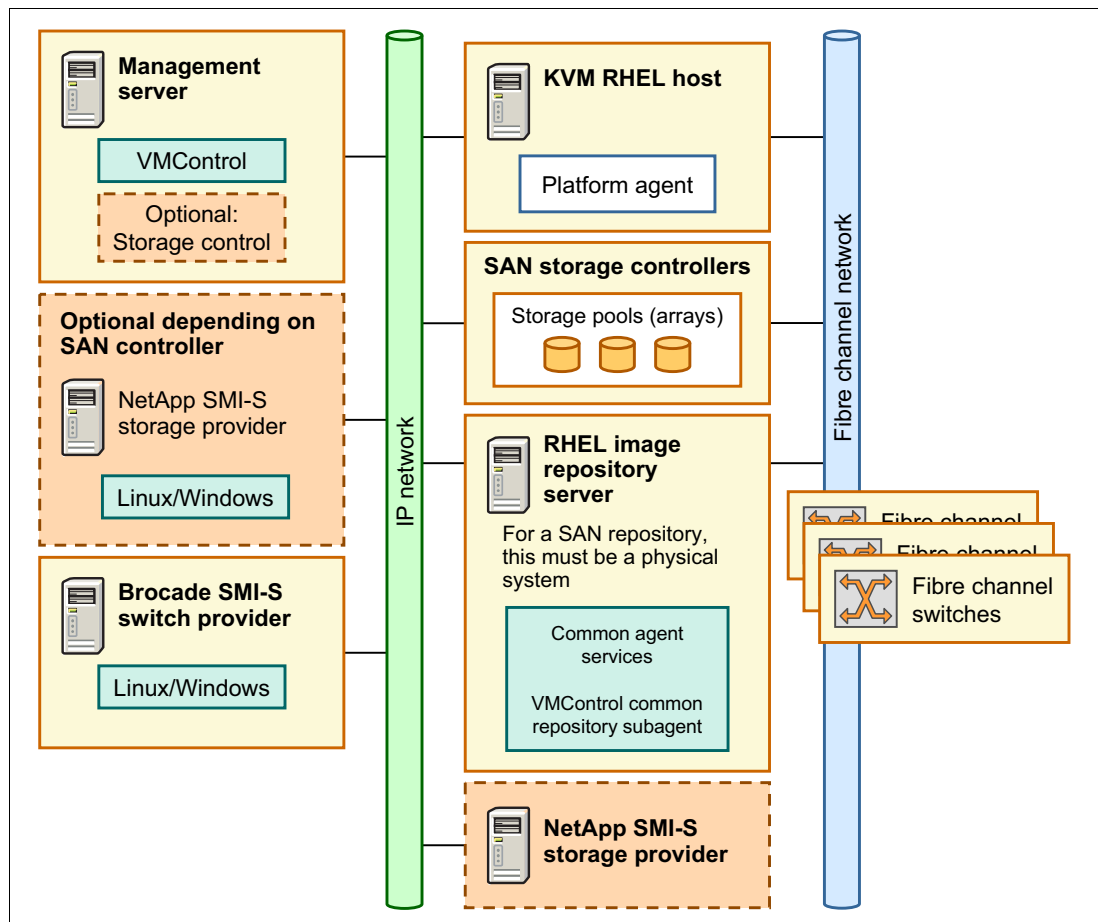

Figure 5-11 KVM virtualization environment with SAN storage
The picture in Figure 5-11 shows a KVM virtualization environment with SAN storage.
- ▶ Storage subsystems, storage pools, and the Fibre Channel switch fabric are discovered and inventoried by Flex System Manager for shared access from endpoints in the KVM environment. These endpoints include KVM hosts and image repository servers as shown in Figure 5-11 on page 107.